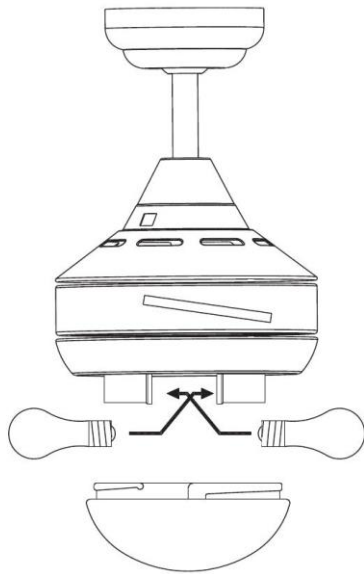

Fig.6
6. Insert and secure the light bulbs (Max. 15W CFL Spiral only, not included) into the ES sockets as shown in Fig.6.